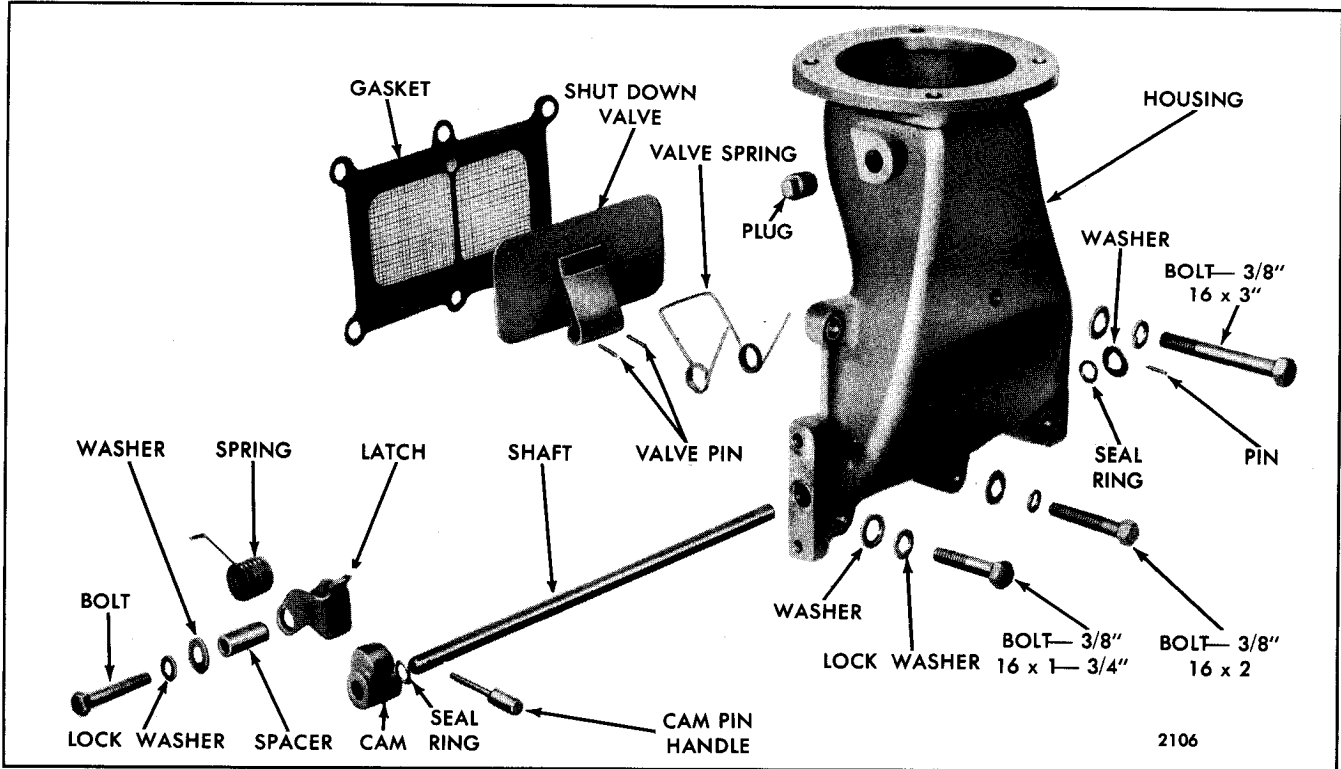

Fig. 1 - Typical In-Line Engine Air Shutdown Housing Details and Relative Location of Parts
The holes for the cam pin handle and the retaining pins must be drilled, using a 1/8" diameter drill, at the time a new service shaft or air shutoff valve(s) is assembled. The valve(s) must be in the same plane within .030" when in the stop position (flush with the housing face). Refer to Figs. 1 and 2 and proceed as follows:
2. Refer to Figs. 1 and 3 and secure the air shutdown housing to the blower with bolts, washers and lock washers as follows: